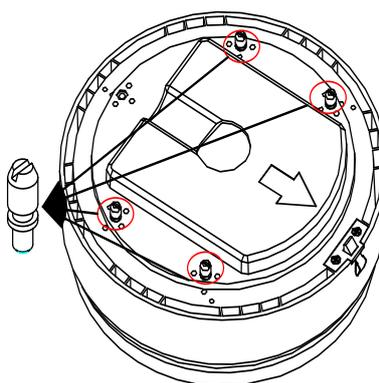

Figure 2-42 Install the Bolts
3. Install 4 bolts to the screw holes as shown in Figure 2-42.